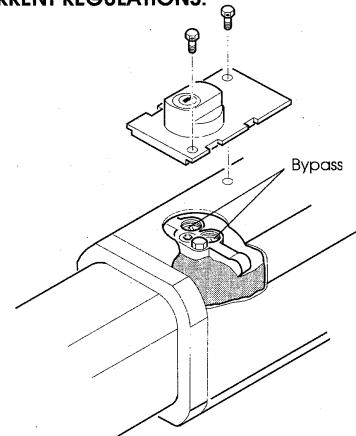

Fig. 11
The sensitivity with which this device operates can be adjusted by turning the bypass screws. These can be reached by unscrewing the fixing screws on the unlocking device as illustrated in Fig. 11.
**N.B.:** It is possible to fit security seals to the fixing screws. This will prevent unauthorized tampering (Fig. 11).